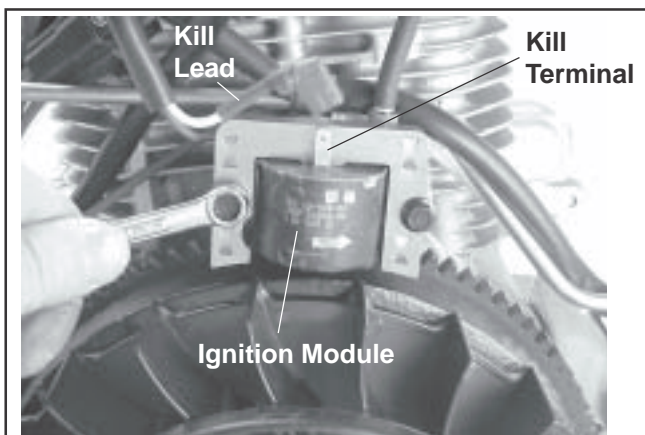

Figure 9-28. Removing Ignition Module.
1. Disconnect the kill lead from the ignition module terminal. See Figure 9-28.